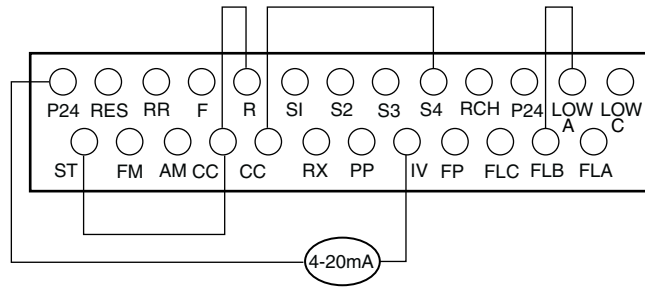

Fig. 56 — Variable Frequency Drive Terminal Block
3. Install a jumper across S2-CC (see Fig. 56 for power exhaust VFD terminal board connections).
1. Drive enable jumper is installed from terminals ST-CC (factory supplied) (see Fig. 56).